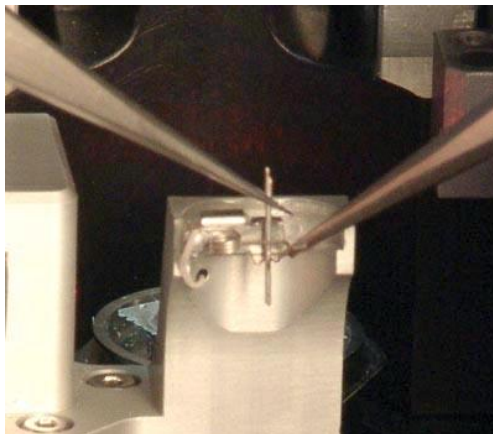

Fig. 6-25
2. Take a pair of tweezers. Hold the tip with the first tweezers and release the probe clip spring with the second tweezers (see Fig. 6-25).